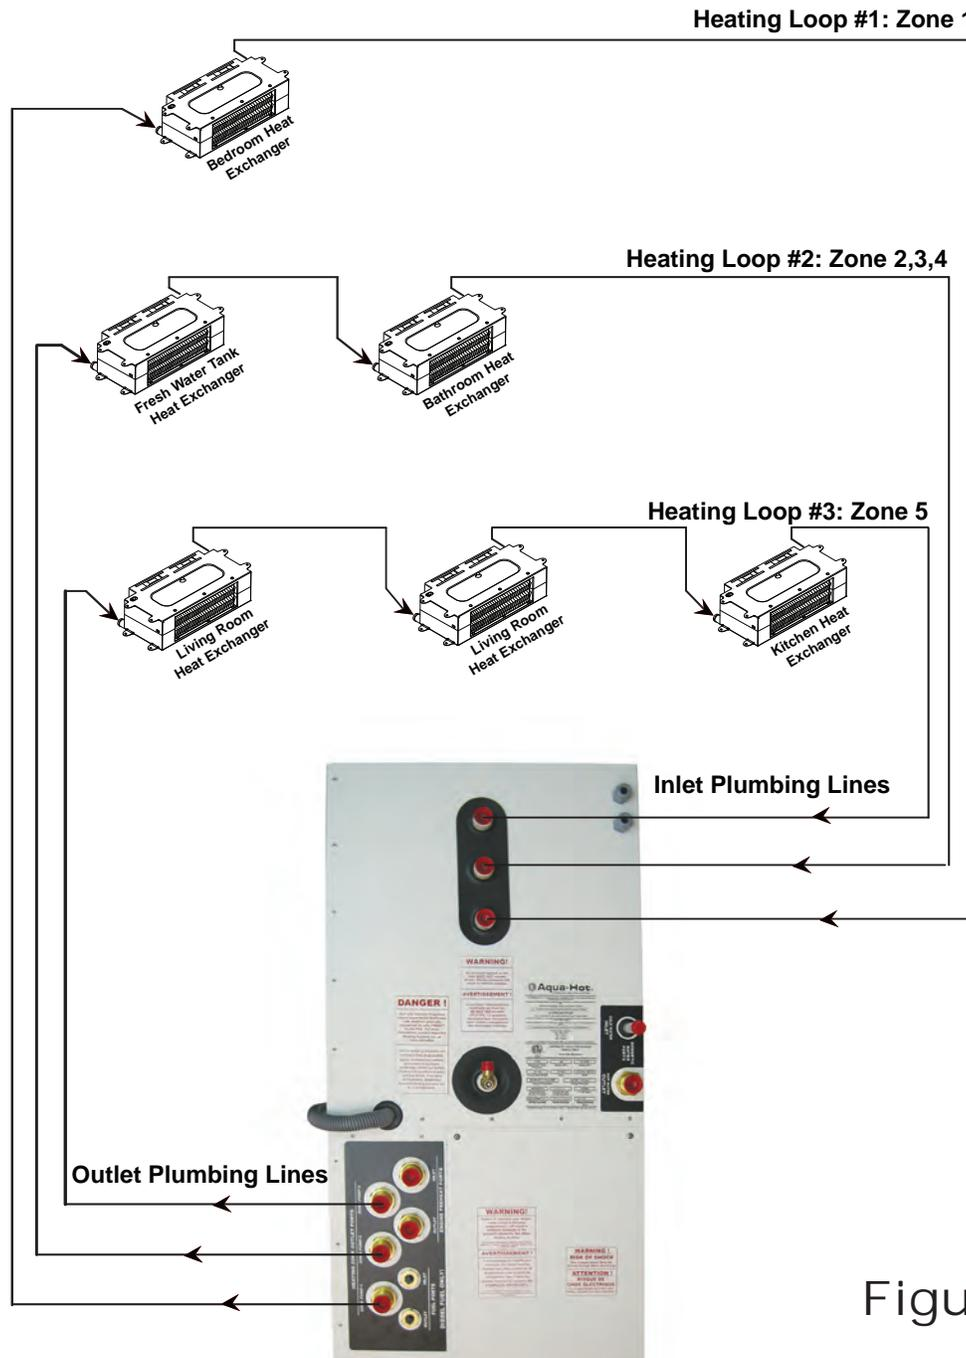

Figure 22
The kitchen and living room heat exchangers (typically three) must be plumbed together **in-series** on “Heating Loop 3.” Reference Figure 22.
The fresh water tank, and bathroom heat exchangers (typically 3) must be plumbed together **in-series** on “Heating Loop 2.” Reference Figure 22.
The bedroom heat exchanger must be plumbed on “Heating Loop 1.” Reference Figure 22.
3. Connect and clamp the outlet line from the Aqua-Hot to the lowest port on the closest heat exchanger for both heating loops. Reference Figures 23 and 24. Then, connect each additional heat exchanger in the same arrangement (low to high). Reference Figure 22.
4. Connect and clamp the inlet line from the heater to the highest port on the last heat exchanger for both heating loops. Reference Figure 22.